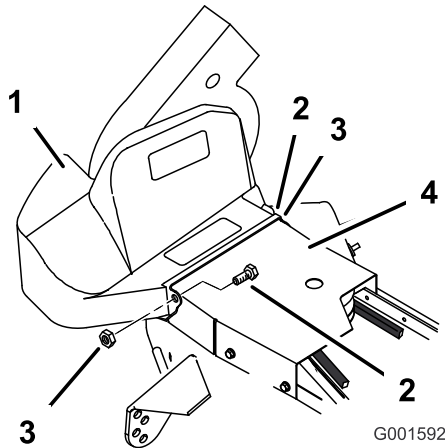

Figure 27
1. Remove the blower belt cover by removing two (1/4 inch) locknuts and (1/4 x 5/8 inch) bolts (Figure 27).